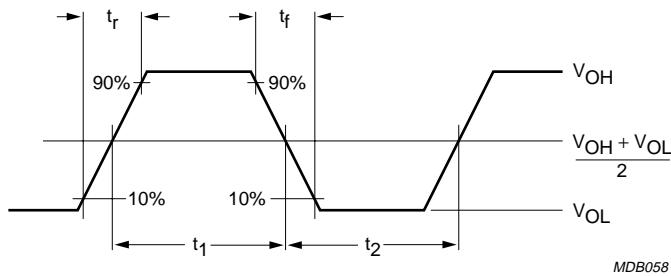

Fig.12 Definition of output and input transition times.
5. Transition time and duty factor definitions are shown in Fig.12;  $\delta = \frac{t_1}{t_1 + t_2}$